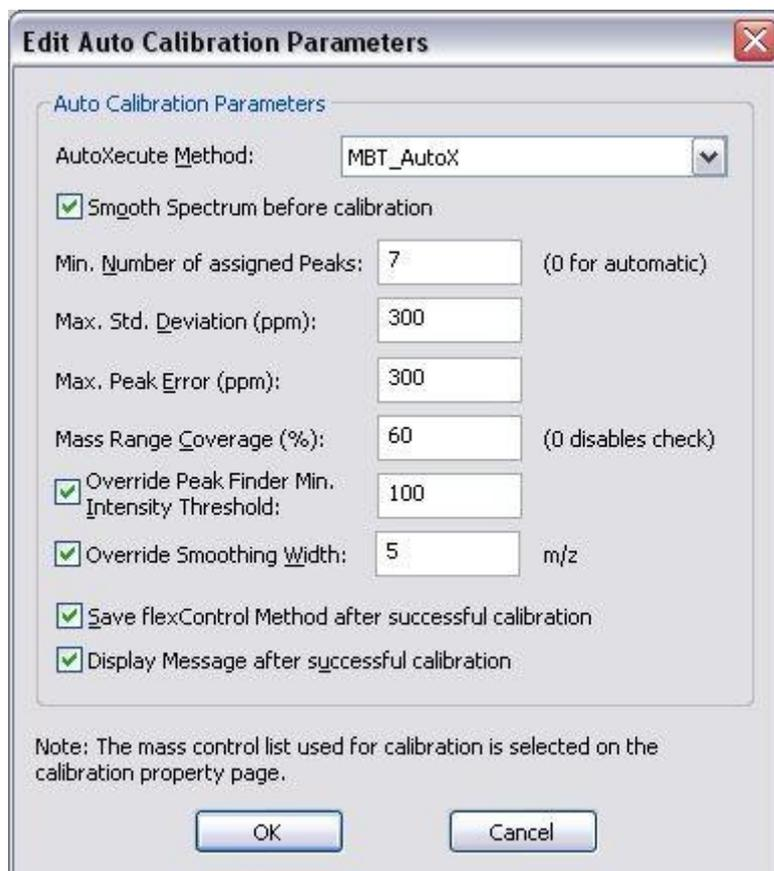

Figure 13 Edit Auto Calibration Parameters dialog
- Enter or check the auto calibration parameter settings shown in Figure 13. Then click the **OK** button.